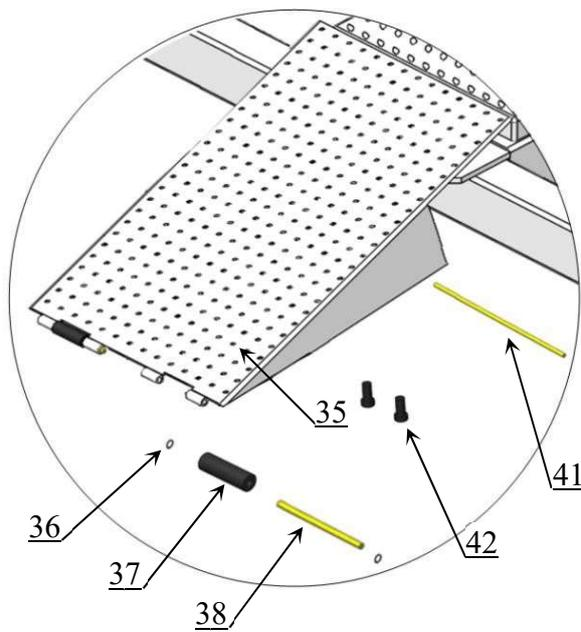
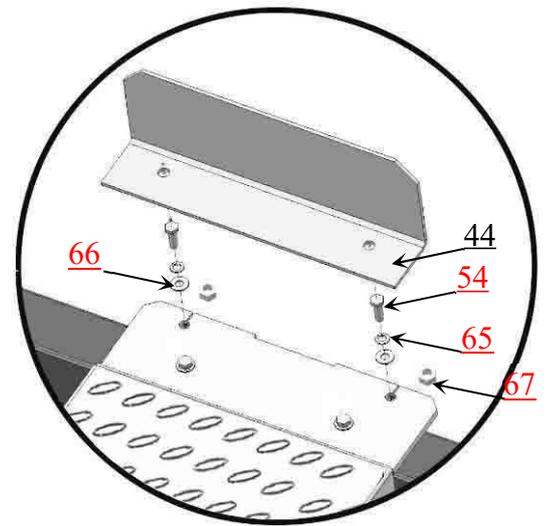

Fig.42
Fig. 43
P. Install Drive-in ramp, Tire stop plate. (See Fig. 42, Fig. 43)